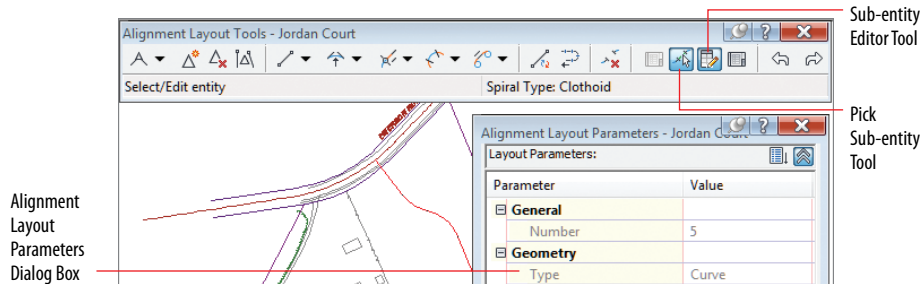

FIGURE 5.14 The Sub-entity Editor Tool, Pick Sub-entity Tool, and Alignment Layout Parameters dialog box
4. Click Pick Sub-entity (see Figure 5.14), and then click the curve at the 90° bend on Jordan Court.
5. Type **50 (15)** for Radius, and press Enter.
This populates the Alignment Layout Parameters dialog box with data, as shown in Figure 5.14.